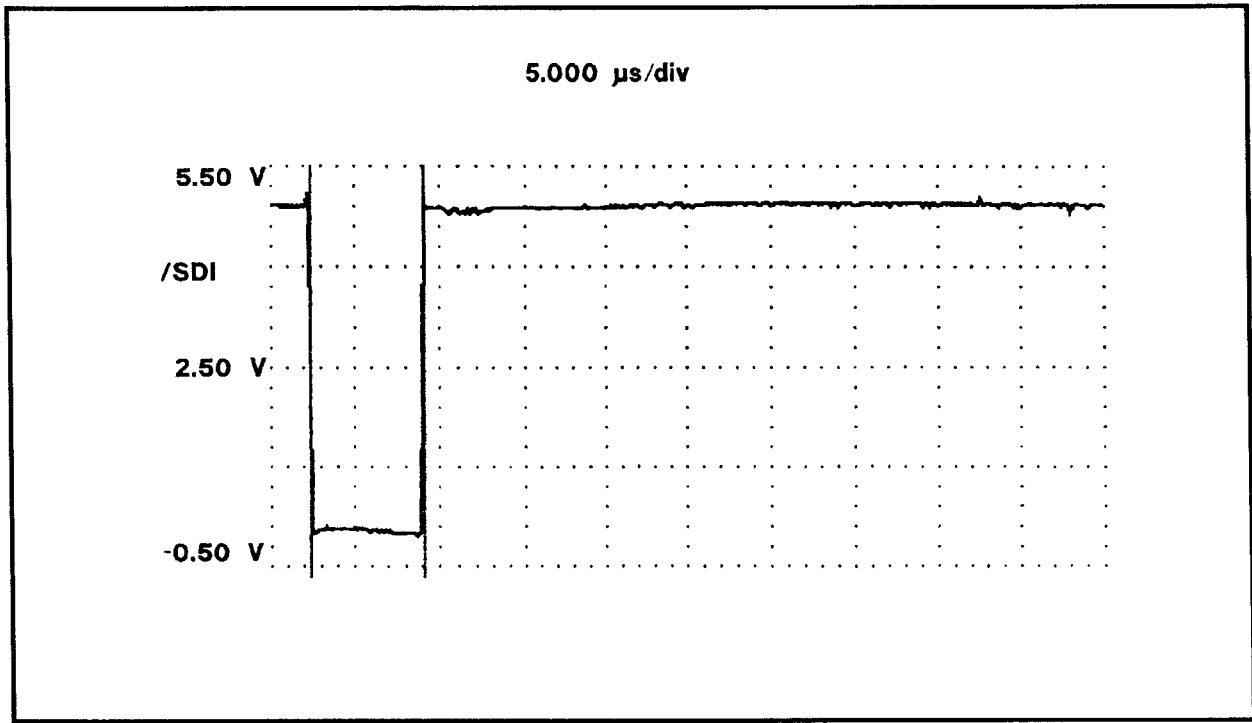

Figure 3-29. TEST 2 or COMMON 2 Scanner PCB /SDI Waveform.
11. Repeat the Relay Check utility while observing /SDI on the TEST 2 Scanner PCB at U1-pin 1 (74HC04) and compare to Figure 3-29. This signal originates from TEST 1 Scanner PCB (/SDO signal). If /SDI is different, then troubleshoot the Backplane PCB for a likely cause of this fault.